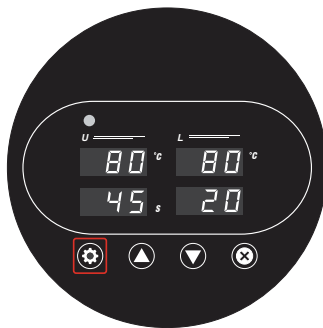

Fig. 7
7. Press Set  button to go to the temperature scale selection mode (Fig. 7).